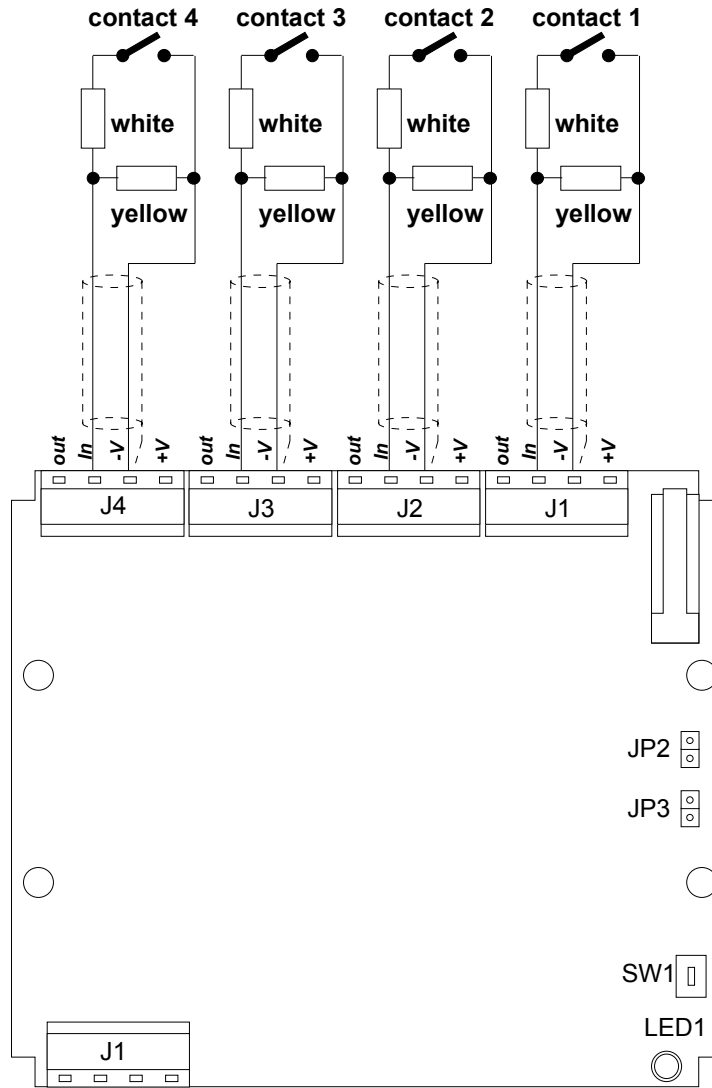

Figure 3. Connecting the Supervised Contact Cables
Connect the contact cables to each of the 4 available inputs. Each contact must be fitted with the appropriate balancing resistors supplied with the kit. Place the resistors next to the contacts themselves, as illustrated in Figure 3.
- Inputs cable = shielded as in the Figure 3